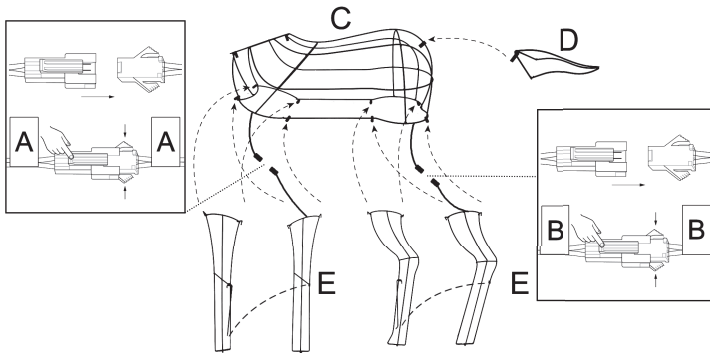

Fig.1
1. Insert the metal hook of legs (E) into the corresponding metal cylinder of body (C). (see Fig.1)
2. Connect the front legs and back legs with the Rod. (see Fig.1)
3. Insert the metal hook of tail (D) into the corresponding metal cylinder of body (C). (see Fig.1)